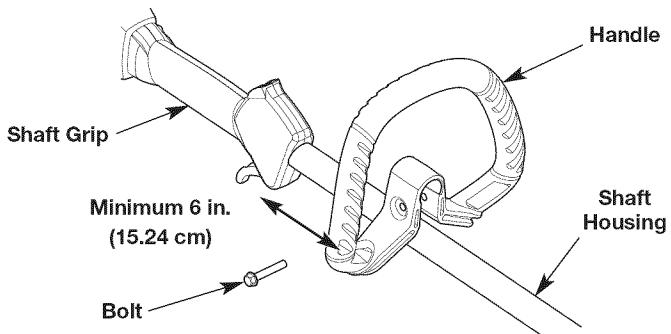

Fig. 2
1. Loosen the bolt (Fig. 2).
2. While holding the unit in the operating position (Fig. 11), move the handle to the location that provides the best grip. Place it a minimum of 6 inches (15.24 cm) from the end of the shaft grip (Fig. 2).